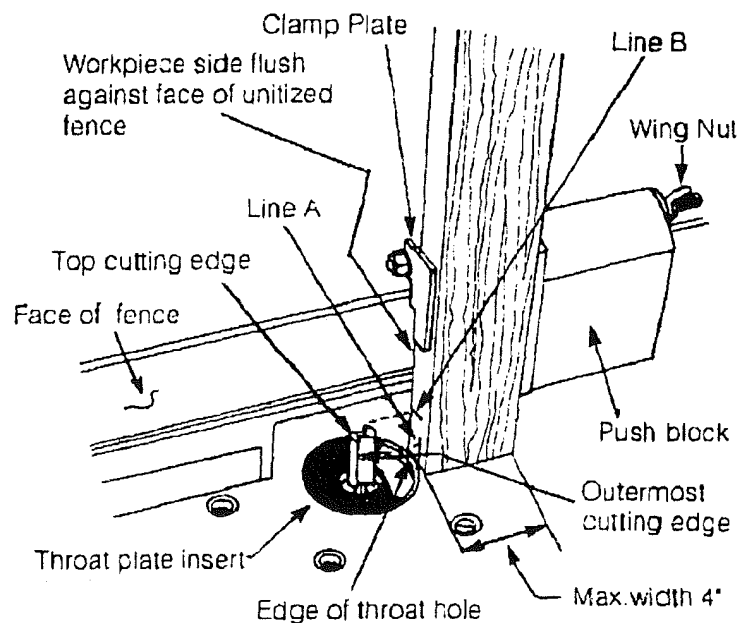

FIGURE 29.
4. Mark lines "A" and "B" on the edge of the workpiece close to the end to be cut. Line "A" for FULL DEPTH OF CUT (total amount of material you want to remove) and line "B" for FULL DESIRED HEIGHT OF TENON. See Figure 29
5. Position workpiece between clamp plate and push block so that its side is held flush against face of the unitized fence, the end to be cut is resting on the edge of the throat plate hole and edge marked with lines "A" and "B" is facing router bit. Clamp work piece in this position by snugly tightening the wing nut on clamp rod while making sure that clamp plate stays oriented on workpiece, as shown in Figure 29. MAKE SURE ROUTER IS UNPLUGGED WHEN POSITIONING AND CLAMPING WORKPIECE AND MAKING ADJUSTMENTS.
6. Slide workpiece close to the bit and adjust unitized fence and the router as described before so that outer most cutting edge of bit is aligned with line "A" and top cutting edge of bit is aligned with line "B". See Figure 29. Tightly secure the fence and the router as described before in ADJUSTING DEPTH AND HEIGHT OF CUT.